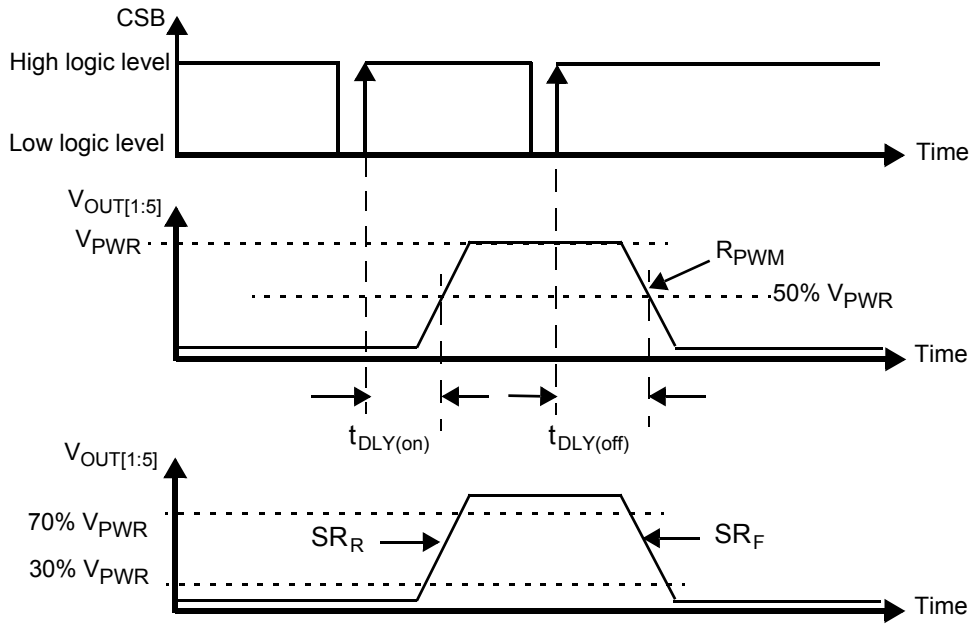

Figure 6. Output Slew Rate and Time Delays
- 39. The PWM ratio is measured at $V_{OUT} = 50\%$ of V_{BAT} in nominal range of PWM frequency (from 60 Hz to 400 Hz). It is possible to put the device fully on (PWM duty cycle = 100%) and fully off (PWM duty cycle = 0%). Between 4% - 96%, OCHI_{1,2}, OCLO and open load are available in ON state. See Figure 6. Output Slew Rate and Time Delays.
Figure 6 describes the PWM resolution.